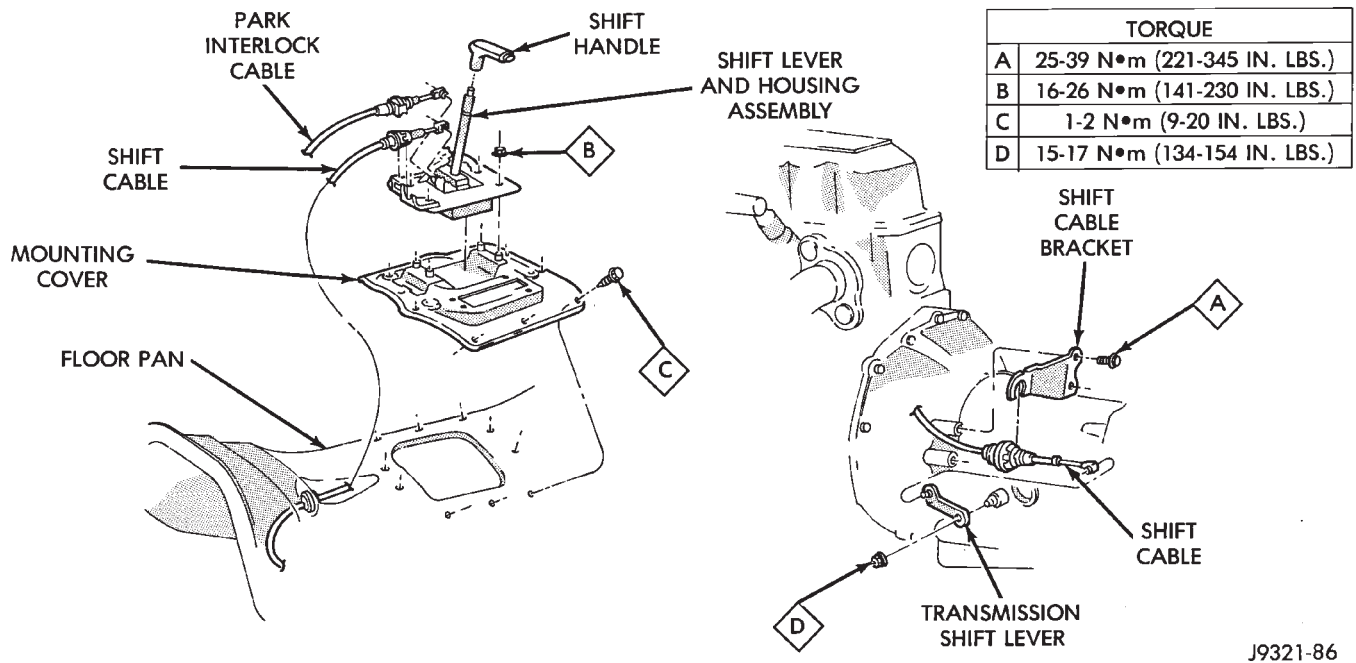

Fig. 50 Shift And Park Interlock Cables
(3) Release cable adjuster clamp to unlock cable (Fig. 50).
(4) Unsnap cable from cable bracket (Fig. 50).
(5) Move transmission shift lever all the way rearward into Park detent. Lever is on manual valve shaft at left side of case.
(6) Verify positive engagement of park lock by attempting to rotate propeller shaft. Shaft will not rotate when park lock is engaged.
(7) Snap cable into cable bracket.
(8) Lock shaft cable by pressing cable adjuster clamp down until it snaps into place.
(9) Check engine starting. Engine should start only in Park and Neutral.
(10) Lower vehicle.
(1) Shift transmission into Park.
(2) Turn ignition switch to Lock position.
(3) Remove shift lever bezel and console screws. Raise bezel and console for access to cable.
(4) Pull cable lock button up to release cable (Fig. 50).
(5) Pull cable forward. Then release cable and press cable lock button down until it snaps in place.
(6) Check adjustment as follows: